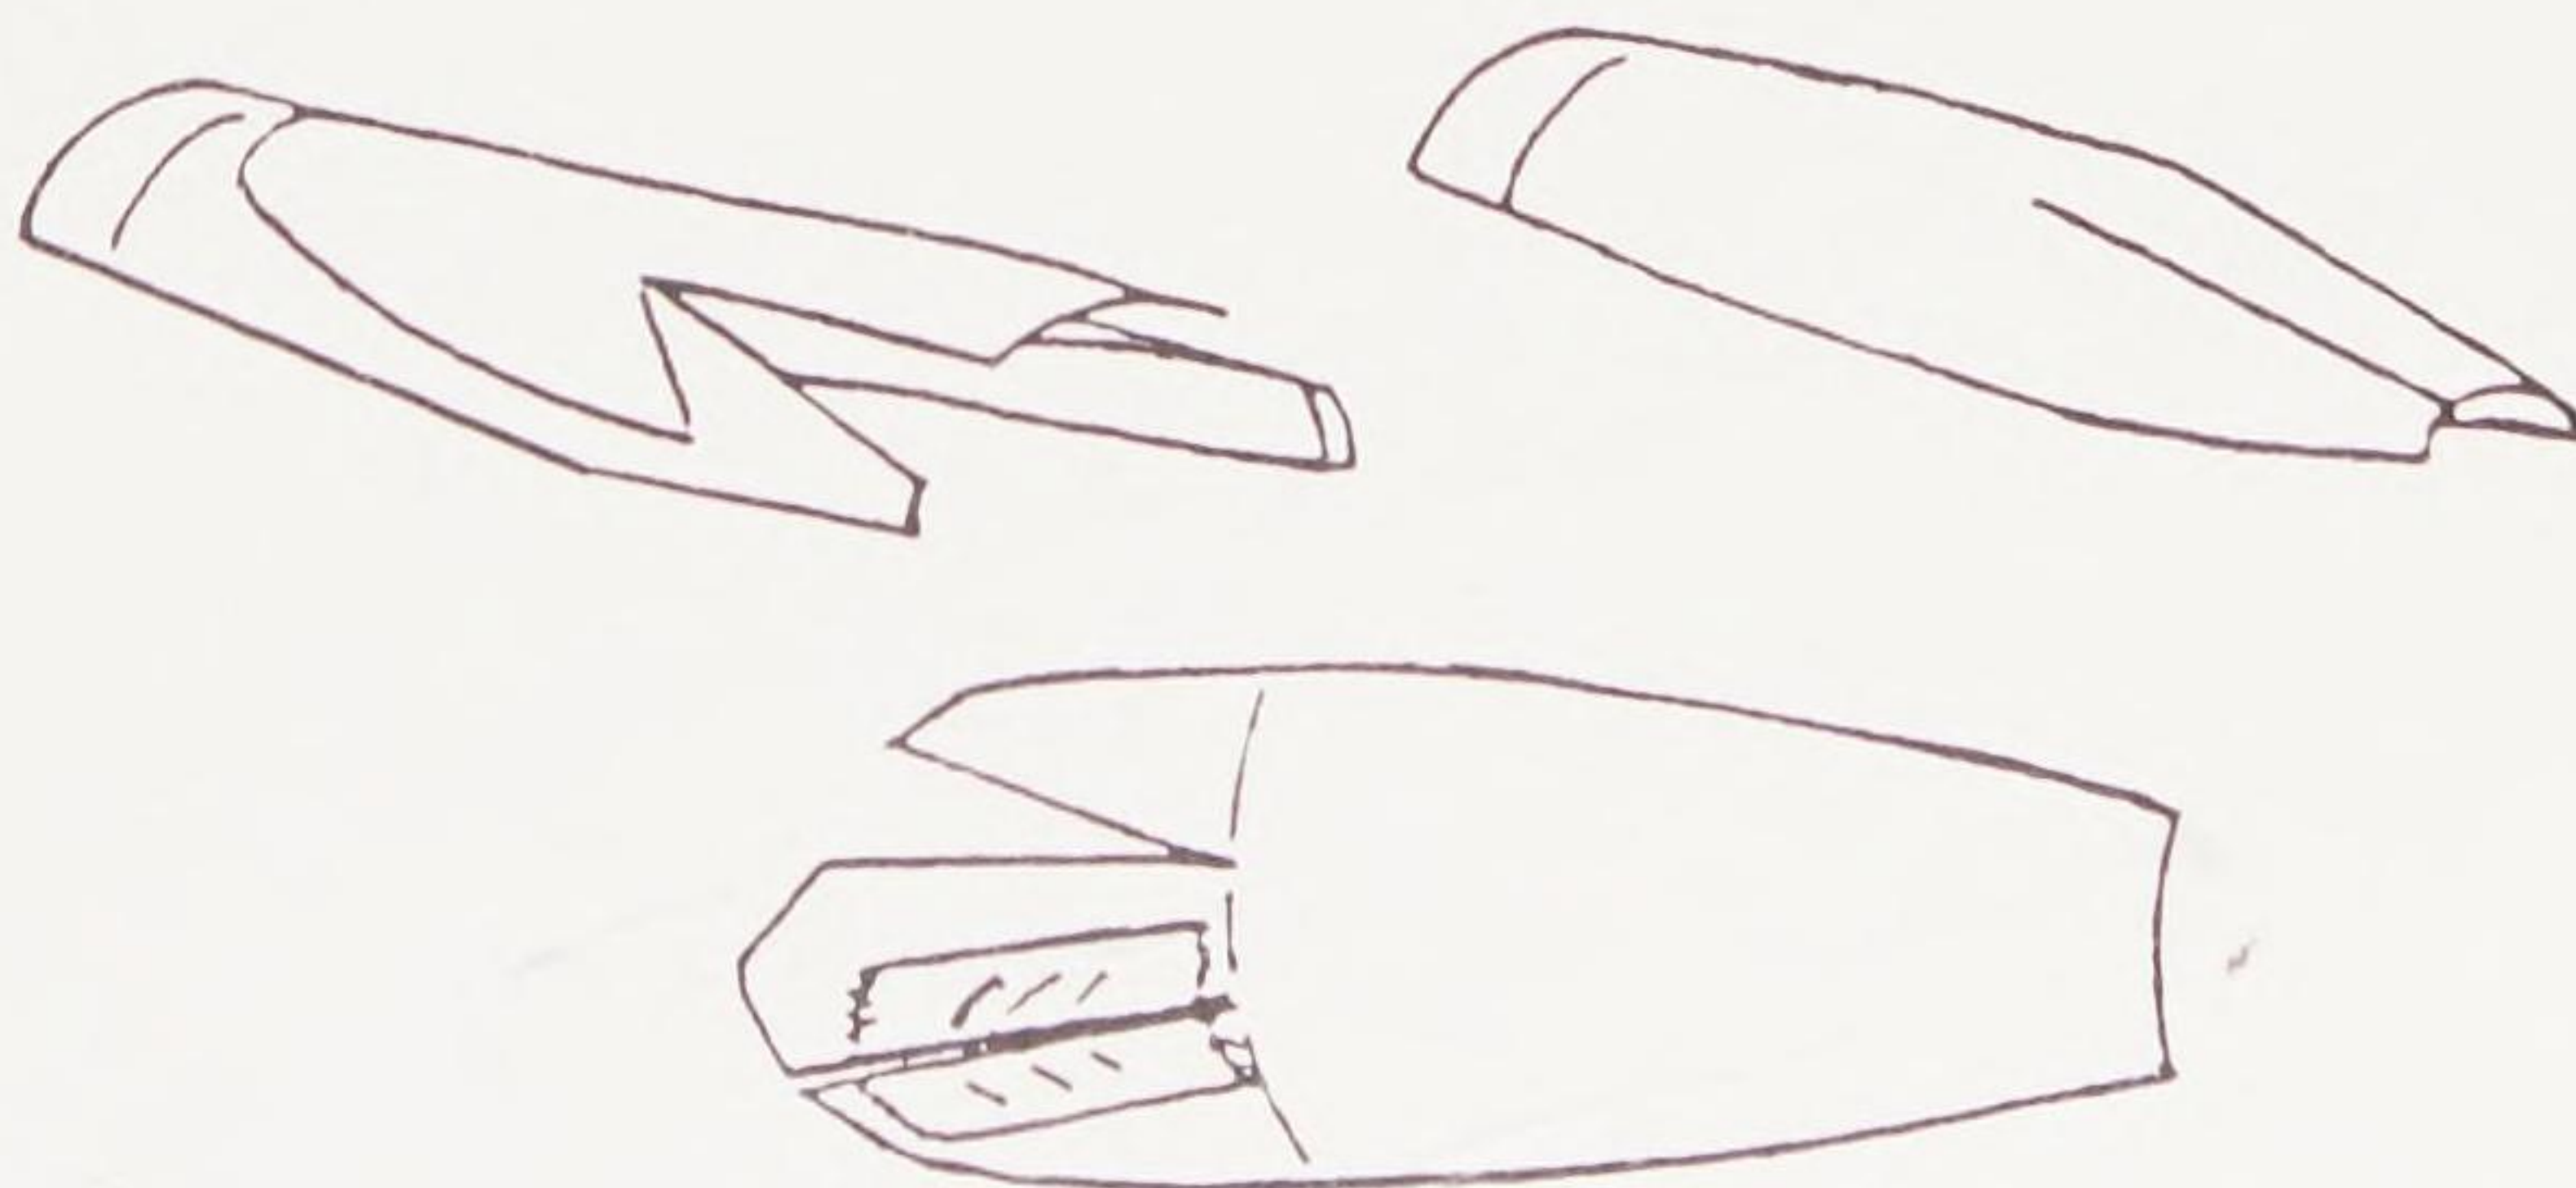

Fig. 14. Cut away the canopy outline, then curl and taper it like the fuselage. Center the canopy over the marks on the fuselage and tape it in place.
- ⑧ Cut off the black lines around the bottom of the canopy. Curl the canopy around a pen for a rounded shape. Bring the edges together as for the tapered parts of the fuselage. The canopy should form a "cupped" shape. Apply tape to the canopy and attach it onto the front of the fuselage. (FIG. 14)